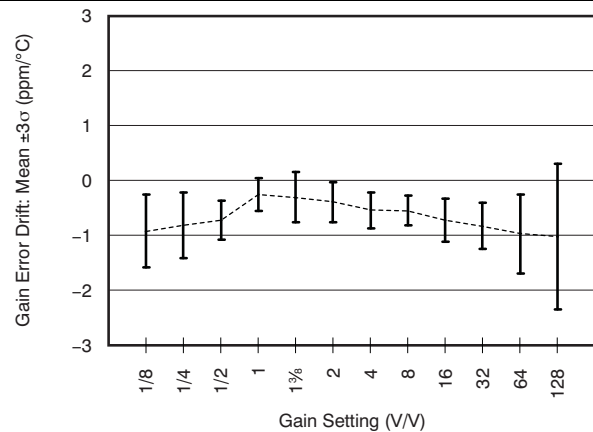

Figure 11. Gain-Error Drift Distribution vs Gain Setting (Mean With $\pm 3\sigma$)
(5) Gains smaller than $\frac{1}{2}$ are measured with smaller output swing.
(6) See Figure 11 for typical gain error drift of various gain settings.
(7) Only $G = 1$ is production tested.